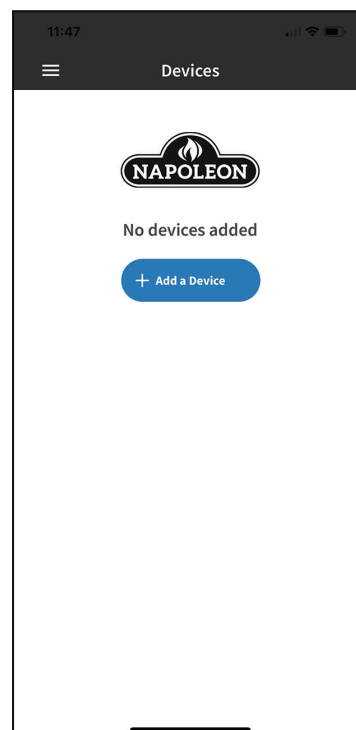

Fig. 3
4. Select "Add Device" and accept permissions (**Fig. 3 & 4**).